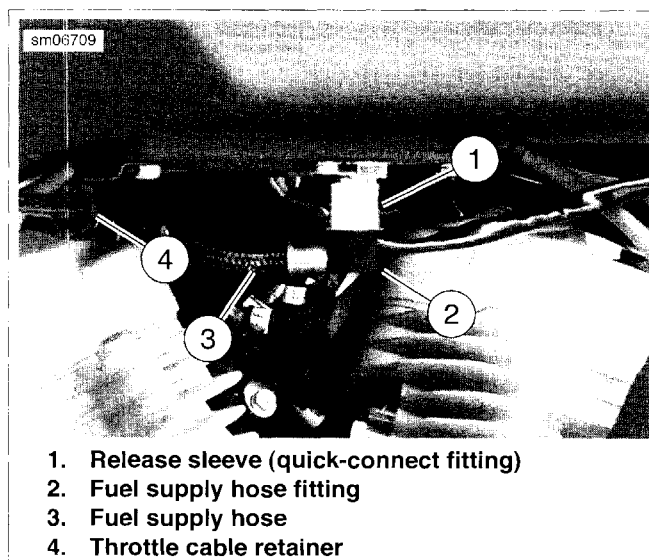

Figure 4-19. Fuel Tank Quick-Connect Fitting
2. See Figure 4-19. Push up on release sleeve (1) on fuel pump quick-connect fitting and pull down on fuel supply hose fitting (2) to disconnect fuel supply hose (3). Immediately clean up any fuel spills.
4. See Figure 4-19. Remove retainer (4) securing throttle cables to plate on bottom of fuel tank.
10. Remove screw with washer (4) from rear of fuel tank. Remove protective plastic cap (not shown) from threaded end of screw (6). Remove screw, washers and lock nut.
11. See Figure 4-19. Remove throttle cable retainer (4) from fuel tank.
9. See Figure 4-19. Secure throttle cables to bottom of fuel tank using a **new** loop retainer.
1. See Figure 4-19. Push up on release sleeve (1) and push fuel hose fitting (2) into fuel pump module fuel pump quick-connect fitting. Pull down on release sleeve to lock quick-connect fitting. Tug on fuel hose fitting to make sure it is securely locked in place.